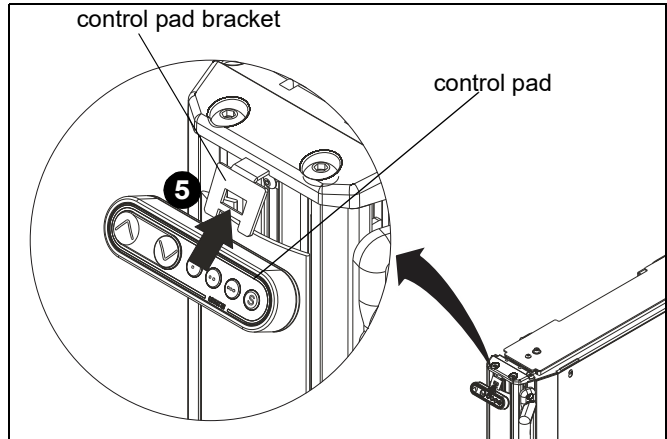

Figure 3
5. Secure control pad into control pad bracket. (See Figure 3)